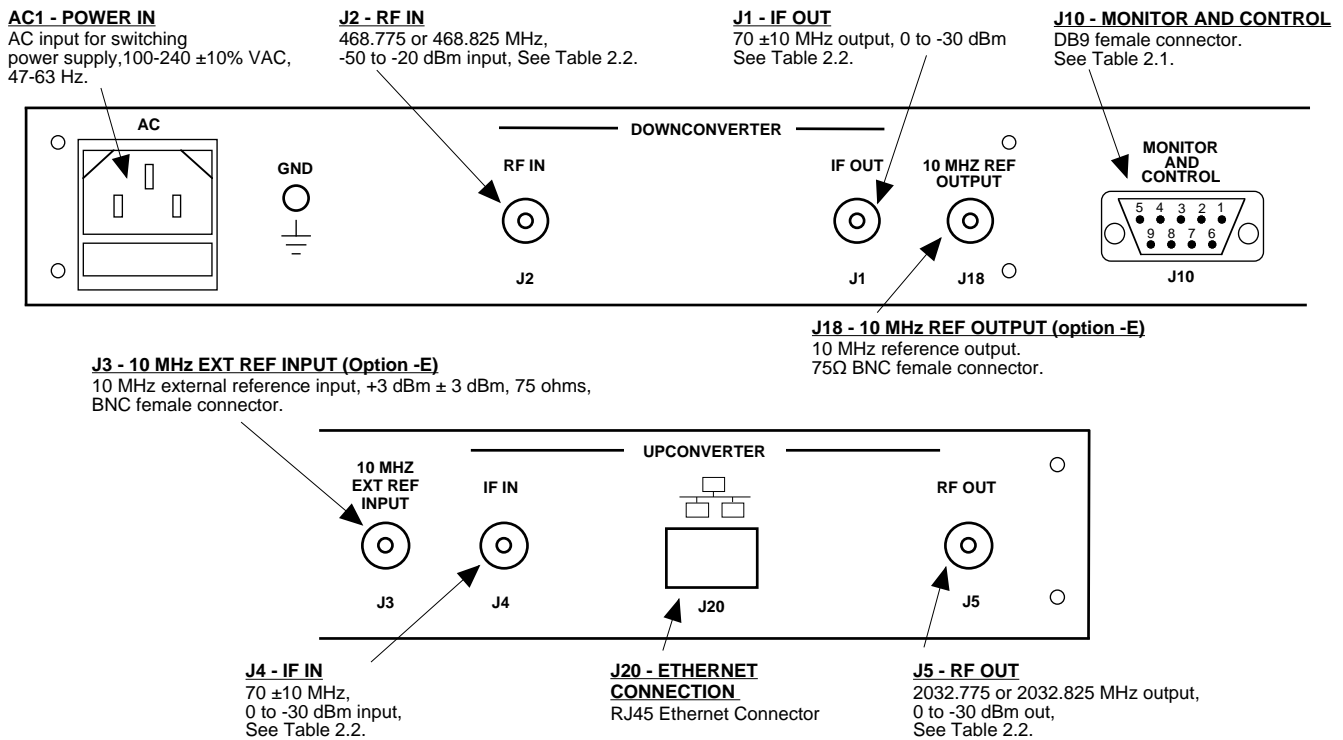

Figure 2.1 Model 2017-2004 Rear Panel I/O's
Figure 2.1 shows the input and output connectors on the rear panel.
- 1.) Connect a 0 dBm to -30 dBm signal to IF In, J4 (Figure 2.1).
- 1.) Connect a -50 dBm to -20 dBm signal to RF In, J2 (Figure 2.1).
When the internal reference mode is selected, the unit's internal 10 MHz reference will become the 'primary' source and the unit's synthesizers will lock to this internal 10 MHz reference. The unit will ignore any external 10 MHz signal present on the external reference input (J3 in figure 2.1). The unit will also buffer the internal 10 MHz signal and provide it on the Reference Out connector (J18 in figure 2.1) at +3 dBm, +/- 3 dB.